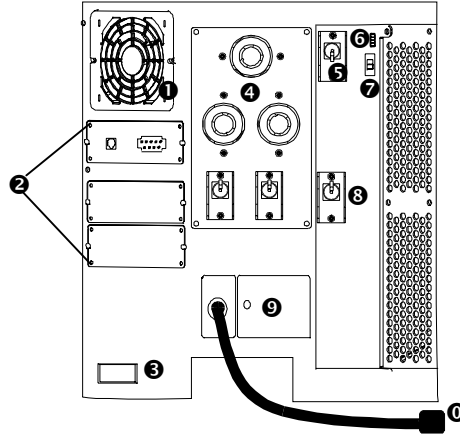

Figure 3: Rear View of the Symmetra RM (200/208 Vac / L1-L2-G version shown)
Power Distribution Panel (PDU) ❹: The type of power panel depends on the voltage range of the Symmetra RM. Figure 3 shows a Symmetra RM with a 200/208 Vac (L1-L2-G) power panel. It contains one L6-30 and two L6-20 receptacles. The 220/230/240 Vac (L1-N-G) power panel contains eight IEC C13 and two IEC C19 receptacles. Figure 8, page 16, shows the two PDU panels. The PDU panel can be changed in the field by a qualified technician or electrician.